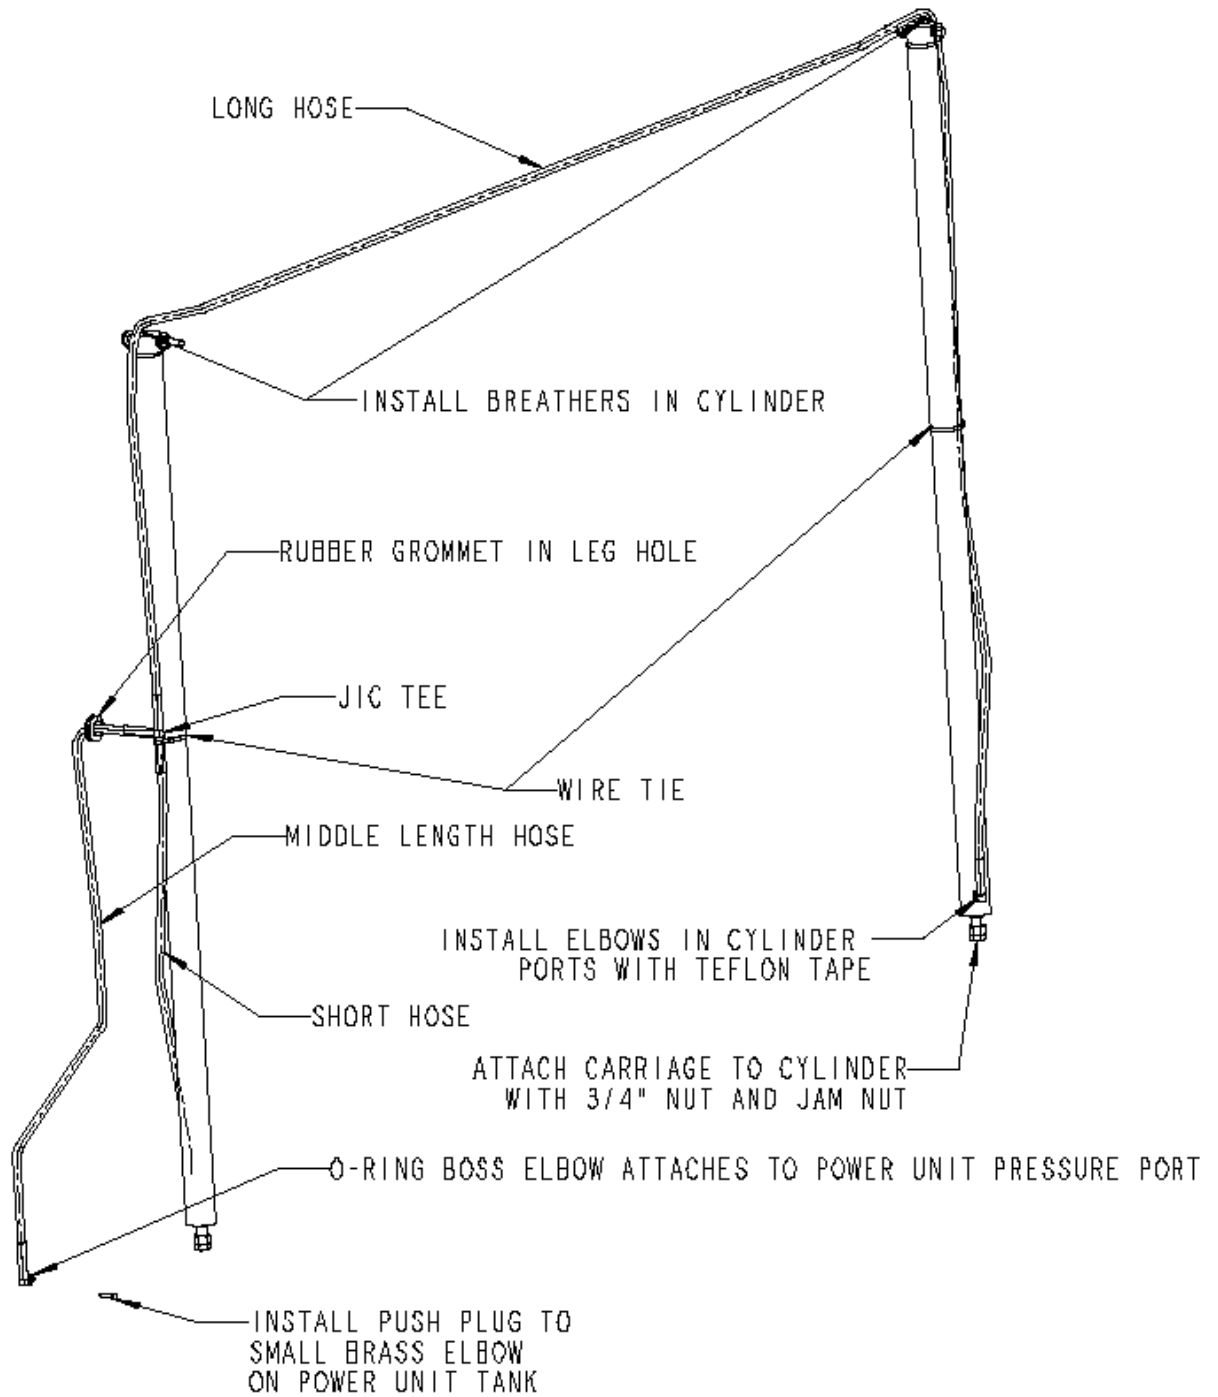

Figure 4
12. **Hydraulic system, figure 4.**
14. **Bleeding the hydraulic system, figure 4.**